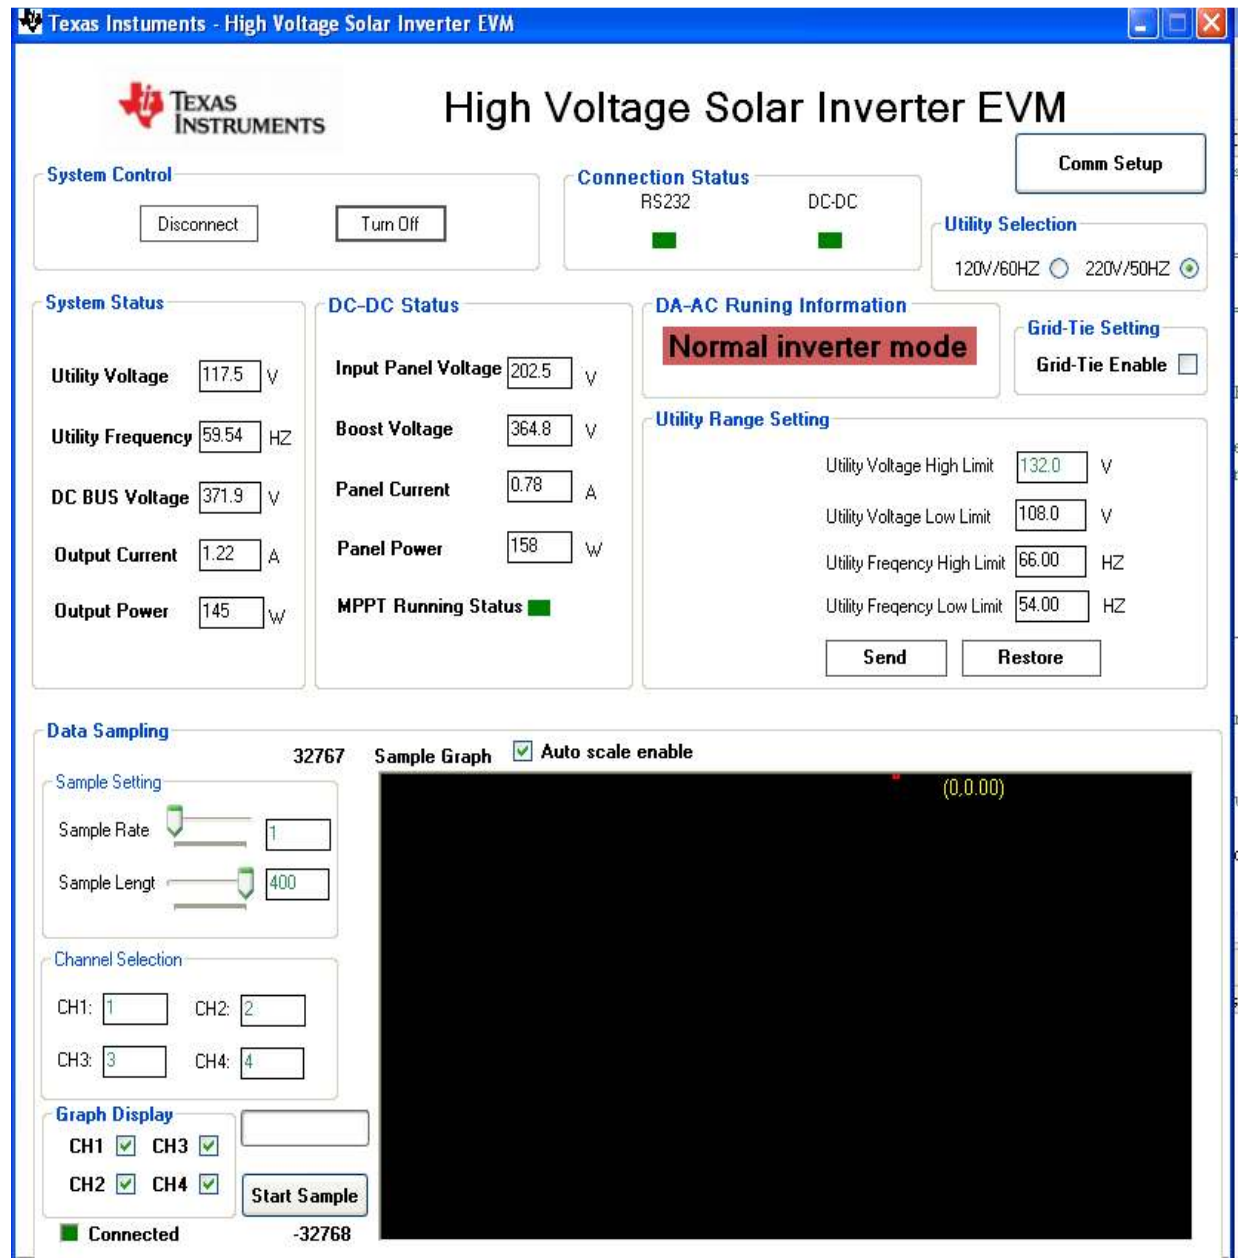

Figure 7 HV Solar Inverter GUI Snapshot for Off-Grid Operation
- On the GUI, verify some of the system parameters. For example, the Input Panel Voltage should be about 220V, the Panel Power should be about 165W, the DC Bus Voltage should be about 380V etc. The GUI snapshot on Figure 7 shows these parameters under this condition.